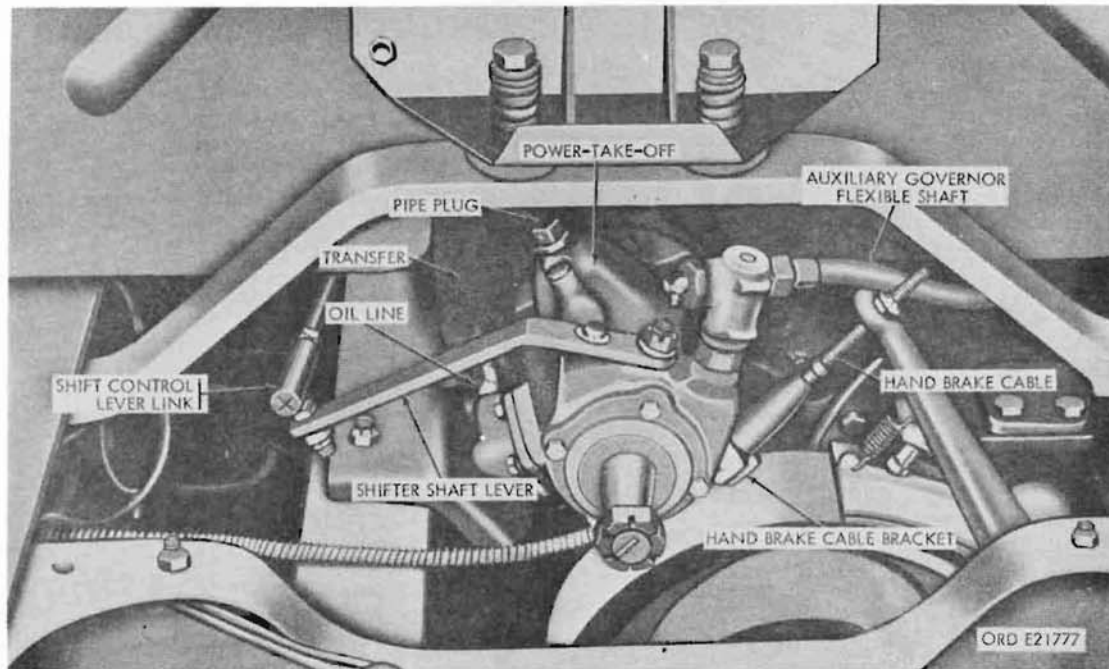

Figure 342. Transfer power takeoff - installed
- (1) Disconnect shift control lever link. Remove two safety nuts holding link to power-takeoff shifter shaft lever (fig. 342) and to shift control lever, and remove link.
lever with safety nut. Lock shifting lever in the disengaged position. Place power takeoff in the disengaged position by moving power-takeoff shifter-shaft lever in a rearward direction to disengage the power takeoff. Detent in power takeoff will hold shifter shaft in position. Check to see whether the shift control lever link can be connected to shifter-shaft lever (fig. 342) without shaft lever movement. If so, connect link to shaft lever with safety nut. If not, adjust linkage (d below).